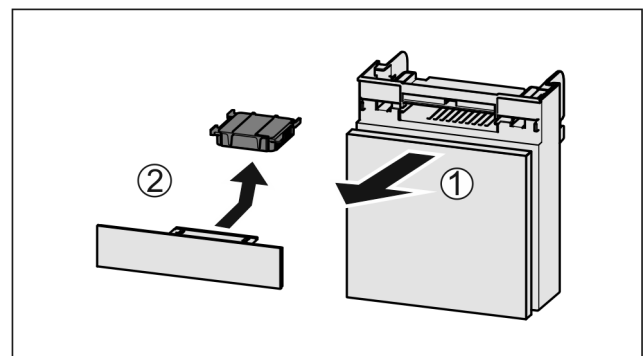

Fig. 96
- Pull out the compartment Fig. 96 (1).
- Remove the carbon filter Fig. 96 (2).